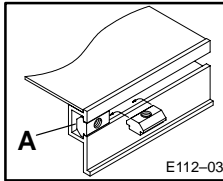

Figure 3: Drop-in T-bar Installation Detail
- a. Insert the two Single Drop-in T-bars into conveyor T-slot by rolling each one into position (Figure 3).
- b. Insert the two Single Drop-in T-bars into conveyor T-slot by rolling each one into position (Figure 3).